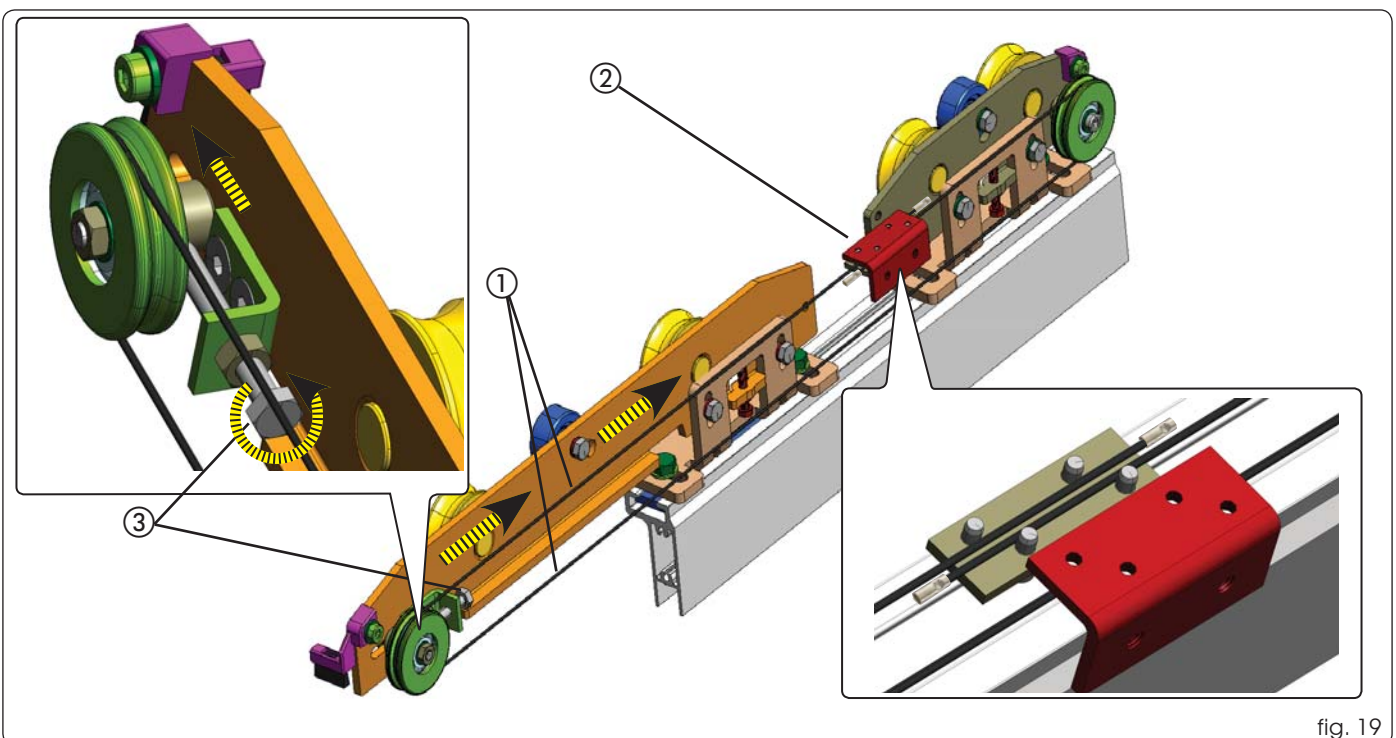

fig. 19
After having installed the steel cable on the 2 wheels fig.19 Ref.①, the 2 sections of the steel cable must be positioned under the plates, as shown in fig.19 ref.②, and secured using the 4 provided screws. Use lugs to close the 2 ends of the steel cable. The plates must be placed on top of the carriage unit, as shown in fig.19 Ref.②. You can adjust the tension using the slot and later lock the position using the screw that rests on the wheel shaft fig.19 ref.③ .